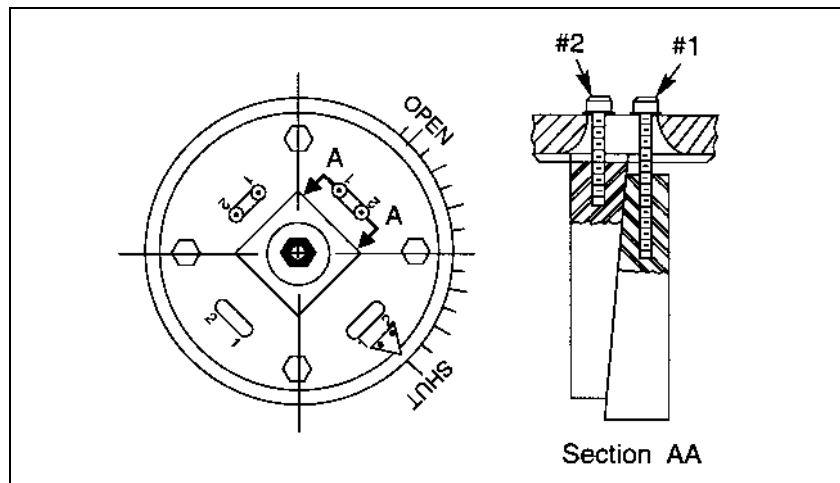

Figure 4 – 24-36" Valve Key and Lockscrew Arrangement
- a. Loosen the #1 lockscrews about 6 to 8 turns. Loosen the #2 lockscrews about 3 turns. See Figure 4
7. If the valve is **24–36" (600–900mm)**, tighten the #2 lockscrews and then the #1 lockscrews to hold the keys in place; if the valve is **4–20" (100–500mm)**, go to step 8. See Figure 4